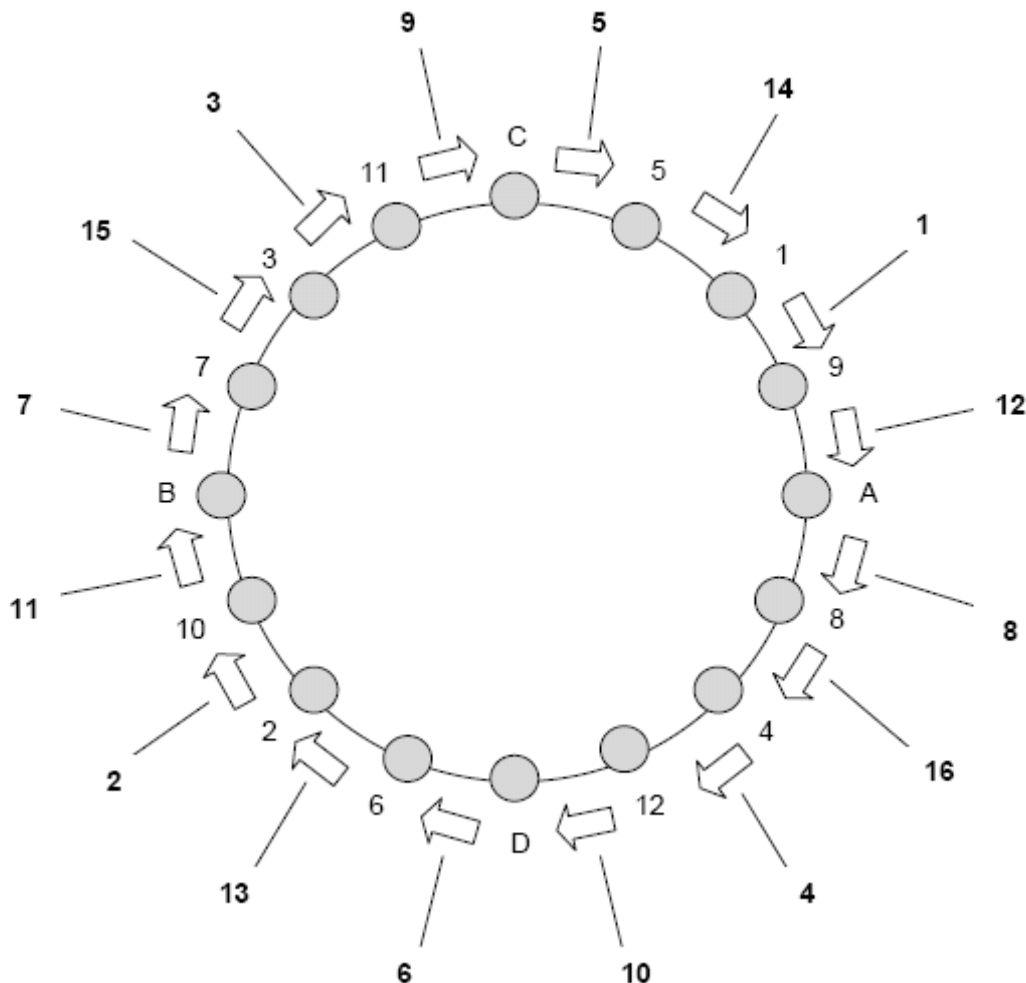

Fig 1.8, Tack to Tack EXTERNAL welding
1. Using the appropriate filler material weld the TANK VALVE in the progression shown in Fig 1.8.